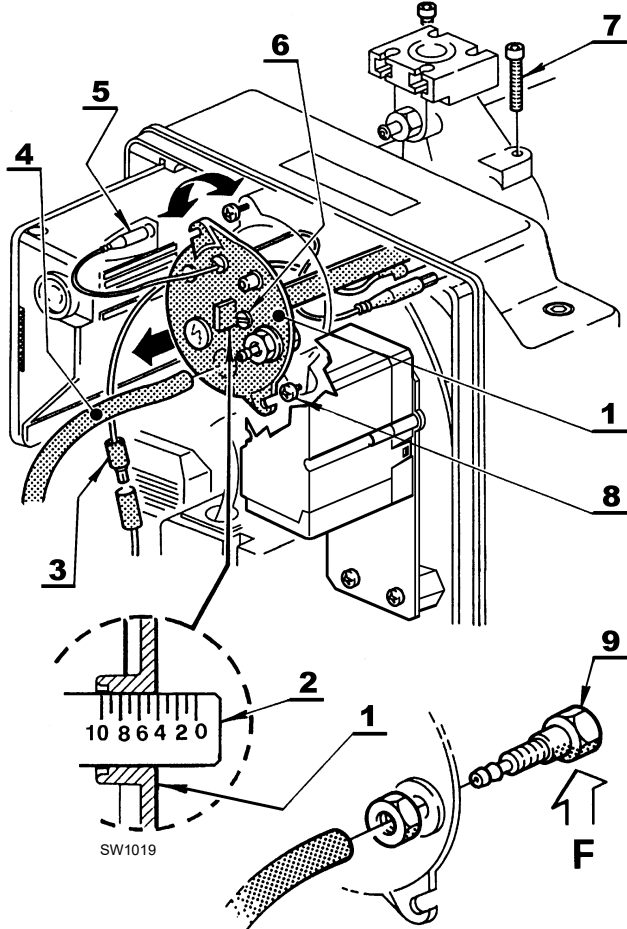

Fig. 11
It depends on the burner output and is carried out by turning the adjusting screw 6)(Fig. 11) clockwise or anti-clockwise until the notch marked on the regulating rod 2)(Fig. 11) lines up with the outer surface of the head assembly 1)(Fig. 11).
To remove the head assembly (Fig. 11) it is necessary to:
Take care not to change the setting position on the elbow-bracket 2)(Fig. 11) when dismantling.
Reassemble with the reverse procedure to that described above, repositioning the head assembly 1)(Fig. 11) as it was originally.
Screw in the screws 7)(Fig. 11) all the way without locking them.
If the pressure test point (11) should become slack accidentally(Fig. 11) we recommend fixing it correctly ensuring that the hole (F)(Fig. 11) inside the head assembly 1)(Fig. 11) is facing downwards.